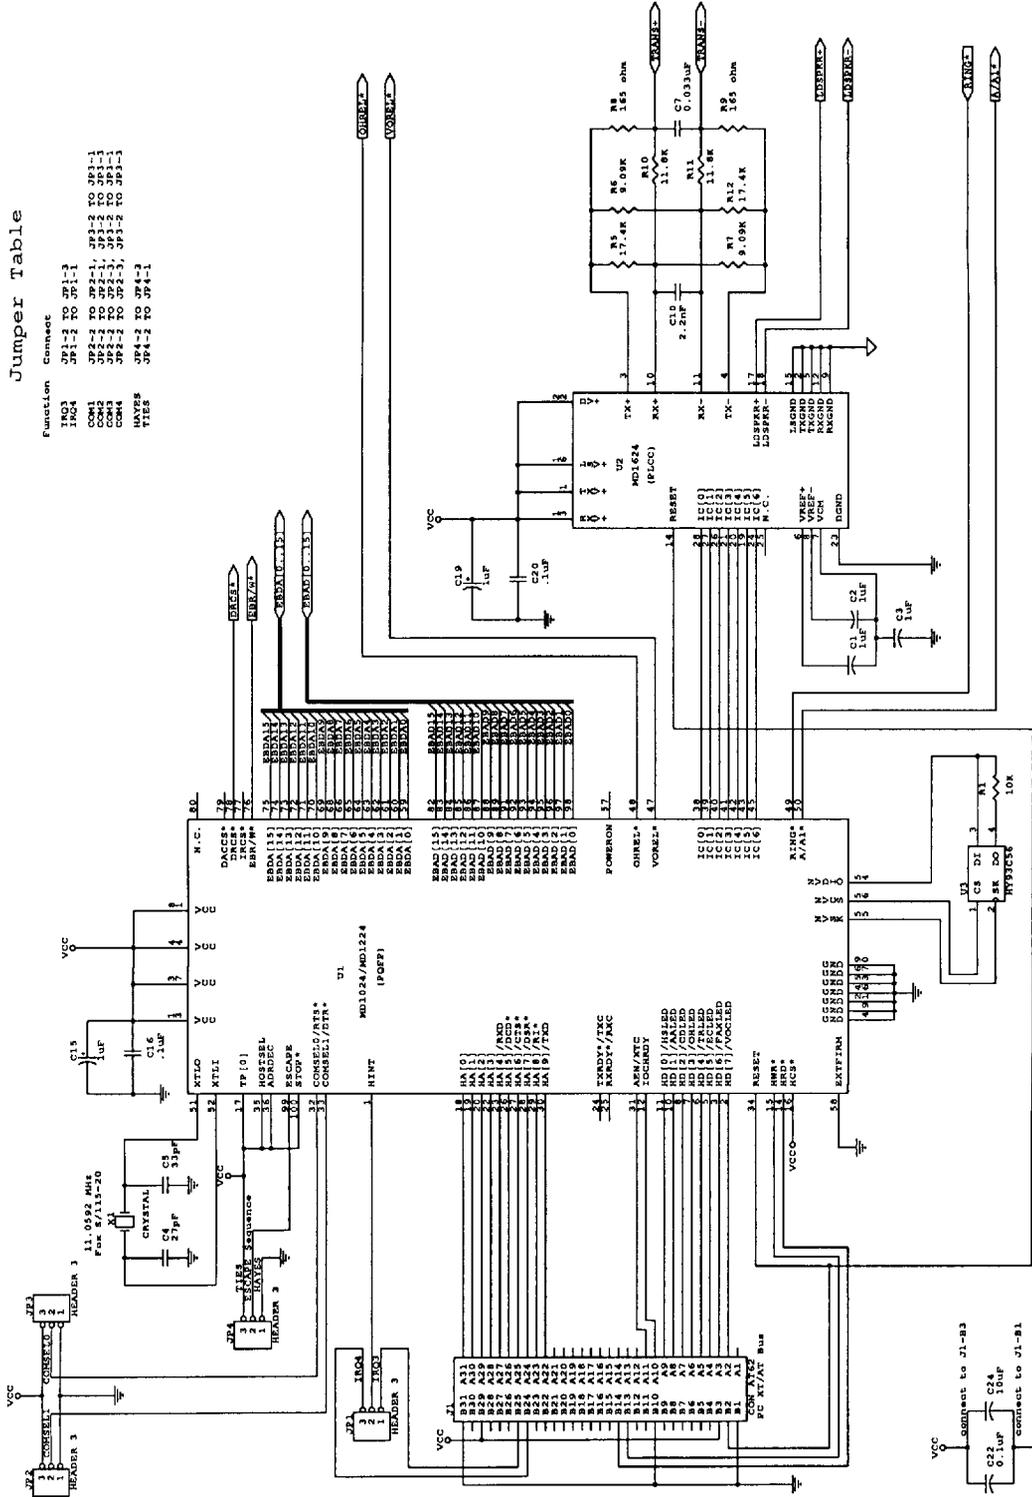

Figure 9-1. CL-MD9624AT/EC Internal Modem Schematic (bus interface)
- An internal modem with local record/playback (with V.42/MNP): Figures 9-1, 9-2b, 9-3, and 9-5
- An internal modem without local record (without V.42/MNP): Figures 9-1, 9-2a, and 9-5
- Figure 9-1. Parallel host interface and DS μ P-SAFE interface
- Figure 9-6. Serial host interface (RS-232); refer to Figure 9-1 for DS μ P-SAFE interface